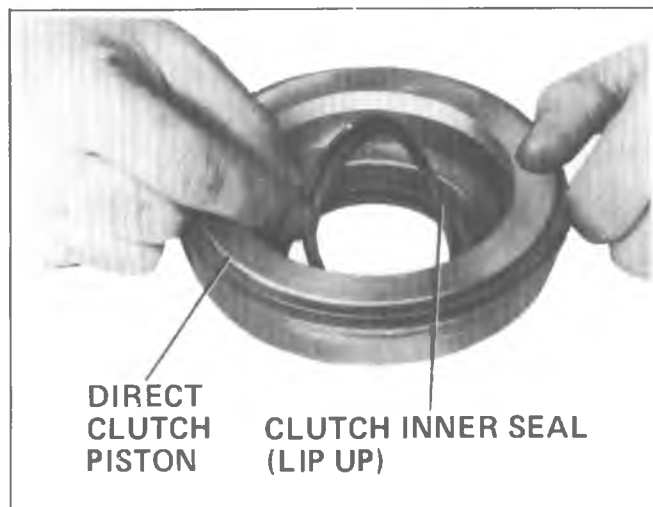

Fig. 7A-102A--Removing Direct Clutch Piston Inner Seal
3. Remove the clutch plates from the direct clutch housing and keep them separated from the forward clutch plates. (See Clutch Plate Usage Chart, Fig. 7A-82A).